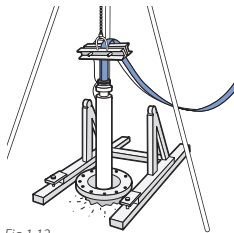

Fig 1.12
- 1.3.2.7 Carefully raise the pump into position above the borehole, using the shackled hoist attached to the **WELLMASTER** clamp. If necessary, prime the pump in accordance with the pump manufacturers' instructions. Lower the pump into the borehole until the clamp is supported over the well-head, on two cross-beams if necessary (Fig. 1.12).